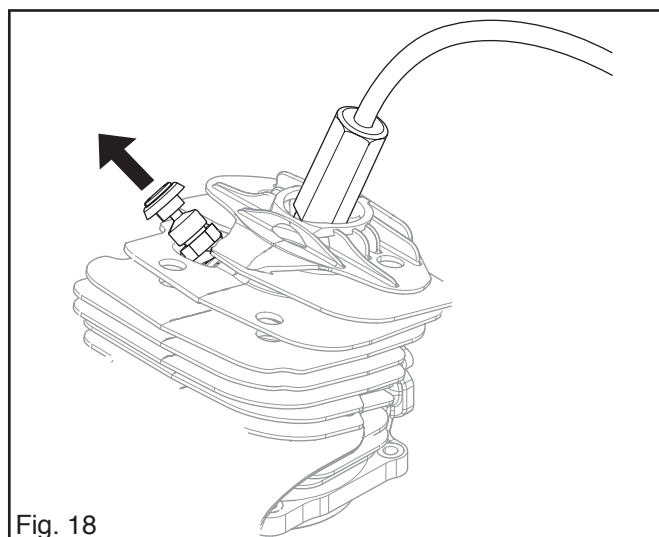

Fig. 18
2. Connect pressure test tool 531 03 06-23 to tool 502 84 40-02 fitted instead of spark plug. See fig. 18. The decompression valve should be closed.